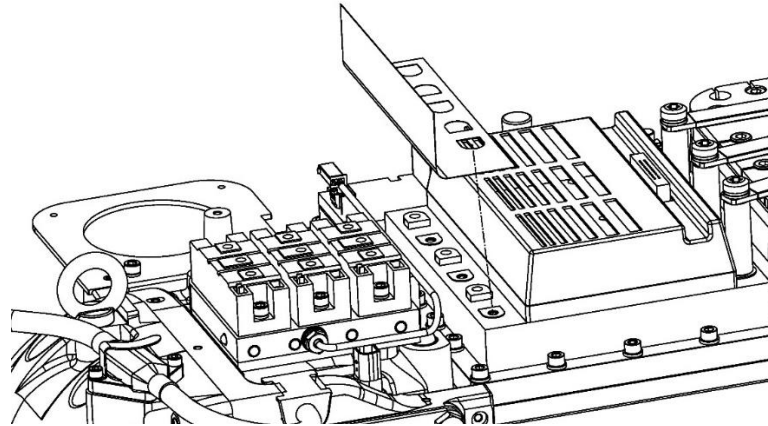

Figure 14 – Mylar Removal
24. Remove the insulating Mylar from the Inverter if applicable. Refer to Figure 14 (Mylar Removal).